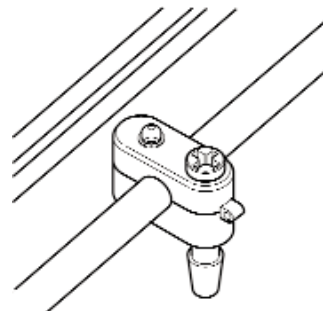

Fig 5 - Fit P clamp
- Fig 5 Install P Clamp
- Screw p clamp to bulkhead ensuring it is located approx. 100 mm (4") from rear housing (Fig 5).